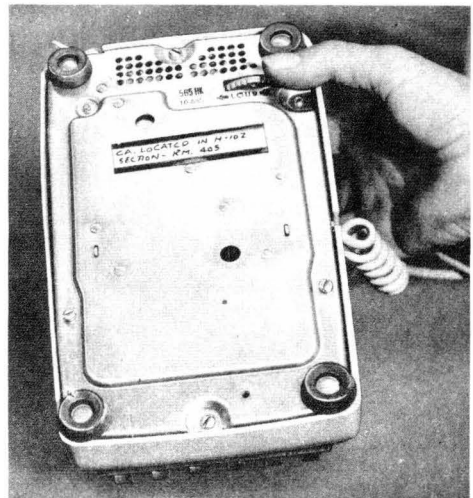

Fig. 2—Marking Cable Location Using Form E-5826
- Direct installation and maintenance forces to the location of terminal points and equipment (Fig. 2 and 3).